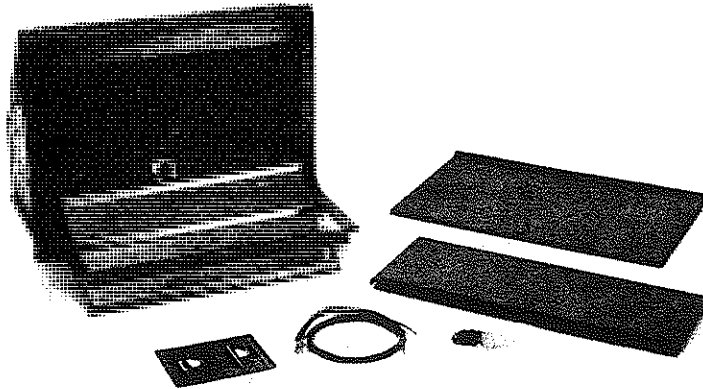

FIGURE 2
- 1.) UNPACK THE ECONOMIZER ASSEMBLY WHICH INCLUDES THE INTAKE HOOD, RETURN/OUTSIDE AIR EXHAUST DAMPER/FILTER RACK SUB-ASSEMBLY, ELECTRICAL HARNESS, BLOWER ACCESS PANEL, SERVICE ACCESS PANEL, MISCELLANEOUS HARDWARE AND INSTALLATION INSTRUCTIONS. (SEE FIGURE 2)